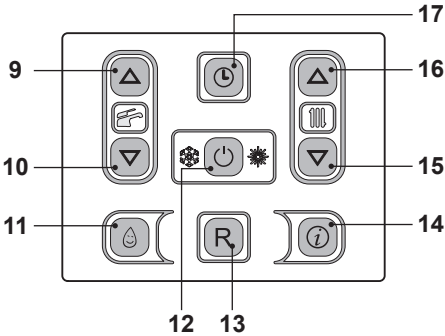

Fig. 2.7
Enter "programming mode" by holding down key 17 for 5 seconds (Fig. 2.7) until the display indicates the Ⓛ symbol.
Use keys 15 (decrease) and 16 (increase) Fig. 2.7 to set the time, day and date values, using keys 9 and 10 to move from one parameter to the next.
- Press the key 12 for 2 seconds until both  symbol appear on the display Fig. 2.7.
The output temperature of c.h. water can be adjusted by acting on keys 15 (reduce) and 16 (increase) (Fig. 2.7) from a minimum of about 25°C to a maximum of about 85°C. Press one of the two keys once to display the "set" value. Press again to access the modification.
However, if the ambient temperature is not comfortable, the flow temperature of the heating plant can be increased or reduced by $\pm 15^{\circ}\text{C}$ by acting on keys 15 (reduce) and 16 (increase) (Fig. 2.7).
The heating temperature of the zone valve controlled by a thermostat is configured on the boiler control panel using keys 15 and 16 Fig. 2.7.